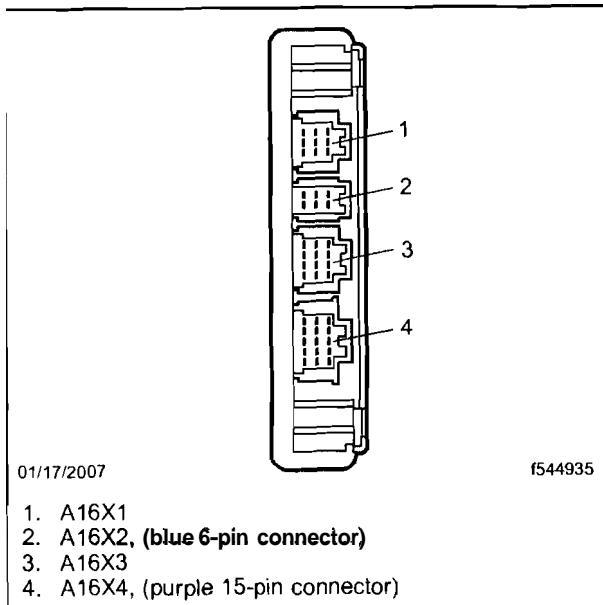

Fig. 10, GS Control Unit Connectors
3. Disconnect connectors A16X2 (blue 6-pin connector), and A16X4 (purple 15-pin connector), on the GS control unit. See **Fig. 10**.